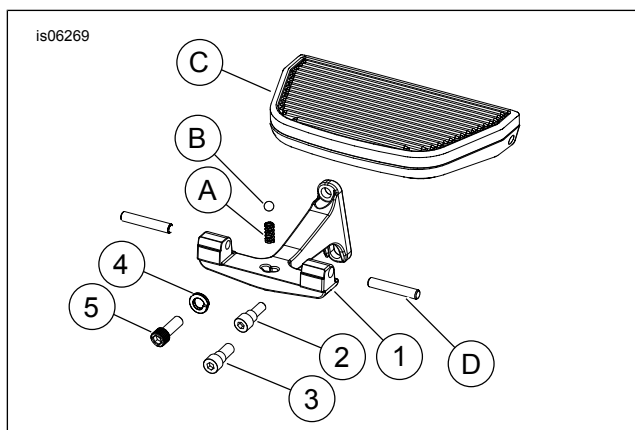

Figure 2. Service Parts: Passenger Chrome Footboard Support
See Figure 2 and Table 1.
1. See Figure 2 and Table 1. With the passenger footboard (C) in the down position, pull the inboard side of the rubber insert pad off the footboard to expose the pivot pins (D).
2. Drive one pivot pin out of the bracket pivot hole into the center pocket of the footboard base, remove the pin and set it aside. Repeat for the second pin. Taking care not to lose the spring-loaded detent ball (B) underneath, set the footboard assembly aside. Remove the detent ball and spring (A), and set aside.